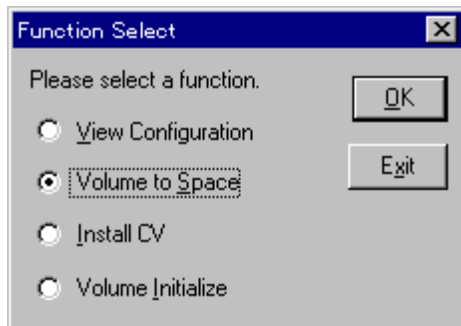

Figure 3.1 Function Select Panel
The Function Select panel (see Figure 3.1) opens after you select the CVS option on the Remote Console Option Select panel (refer to Figure 2.6). The Function Select panel allows you to select and start the desired CVS function. You are returned to the Function Select panel if you select the **Cancel** button during CVS operations.
This panel appears when you select either the **Volume to Space** function or the **Volume Initialize** button on the Function Select panel (refer to Figure 3.1).
The Number of CU Configuration panel opens when you select either the **Volume to Space** function or the **Install CV** button on the Function Select panel (refer to Figure 3.1).
- The **Cancel** and **Before** buttons both return you to the Function Select panel (refer to Figure 3.1).
- The **Cancel** button cancels all requested changes and returns you to the Function Select panel (refer to Figure 3.1).